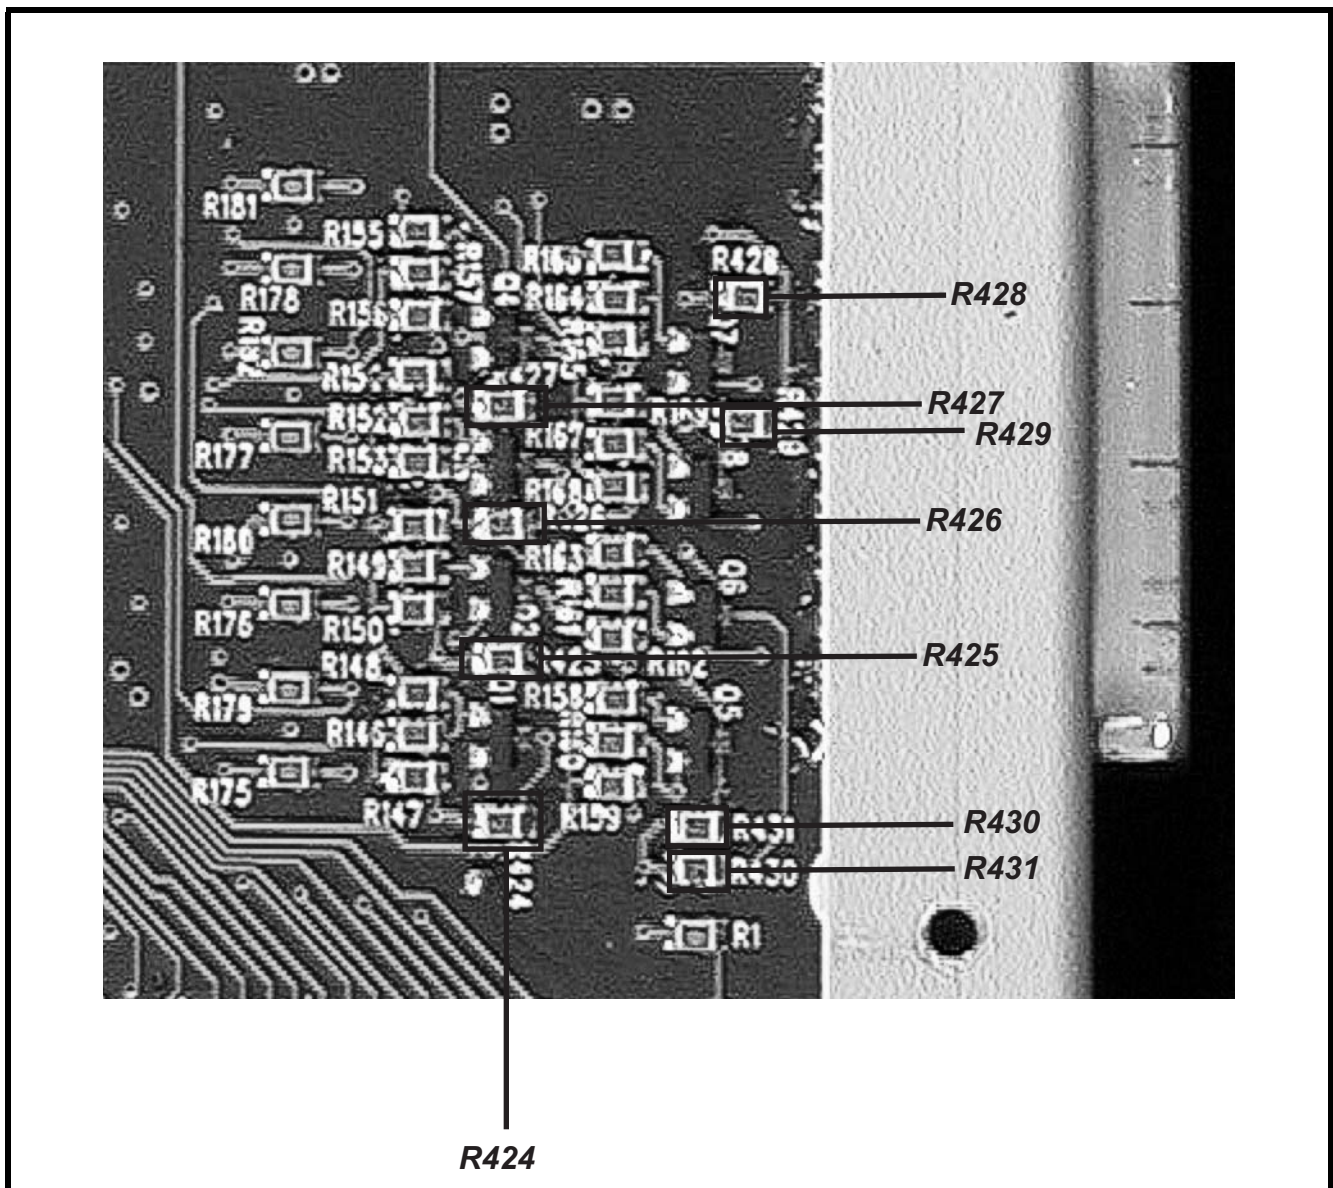

FIGURE 3. Resistor Changes
1. On the RVON-I/O card, remove 8 resistors (**R424 through R431**) and replace with 6.19 K resistors (part number **102515-276**). See figure 3 for resistor placement.